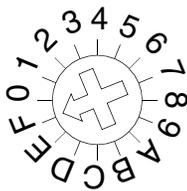

FIGURE 6.39
- Setting the rotary switch to position F, as shown in Figure 6.39, forces the drive to read its address from EEPROM. DSMPPro software supports the addressing range, 1 to 32, which is stored in EEPROM.